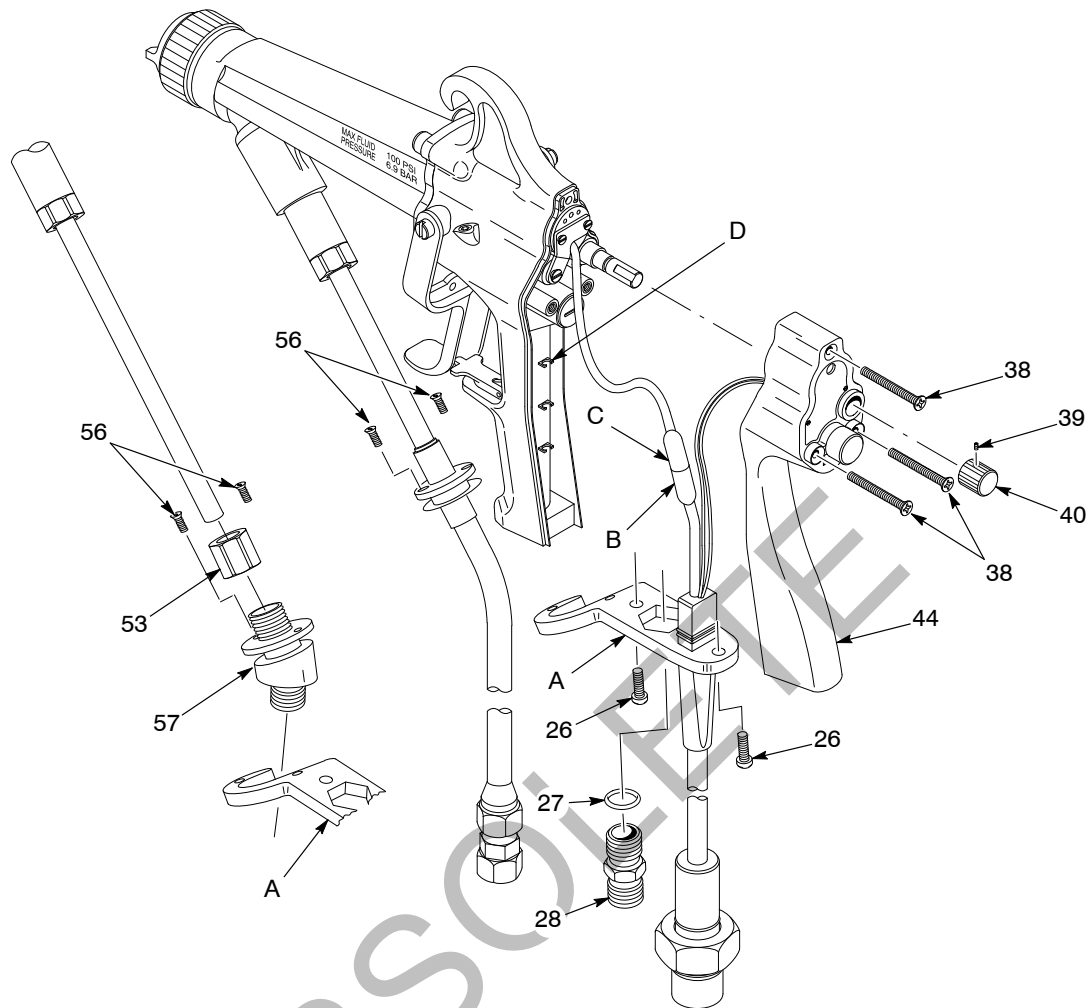

Figure 7-4 Air Inlet Fitting Replacement
1. See Figure 7-4. Remove the horn air adjust valve knob (40) by loosening its set screw (39).
2.  **$\frac{3}{8}$ -in. OD Fluid Tube Spray Guns Only:** Remove the two screws (56) that attach the elbow (57) to the cable bracket (A) and remove the fluid tube from the bracket.
**$\frac{1}{4}$ -in. ID Fluid Hose Spray Guns Only:** Remove the two screws (56) that attach the hose flange to the cable bracket (A).
3. Remove the screws (26, 38) to remove the back cover (44) and the cable bracket (A) from the handle.
4. Slowly pull the back cover away from the gun handle so you do not disconnect the cable connector (B) from the small connector (C) or pull on the kV actuator switch wires.
**NOTE:** The cable is secured in ribbed slots (D) in the back of the handle.
5. Unscrew the air inlet fitting/coupling (28) from the handle base and replace its O-ring (27). Lubricate the O-ring with MagnaLube G or an equivalent PTFE-based lubricant.